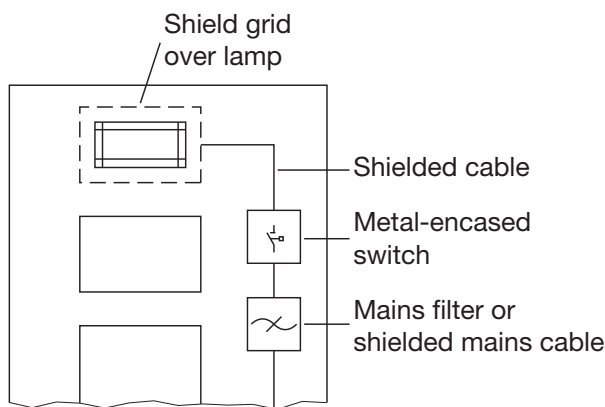

Fig. 5: Interference suppression of fluorescent lamps in cabinet
- Cabinet lighting: Use filament lamps (e.g. LINESTRA lamps) for the cabinet lighting. Do not use fluorescent lamps because they generate interference fields. If the use of fluorescent lamps cannot be avoided, the interference suppression measures shown in Fig. 5 must be implemented.